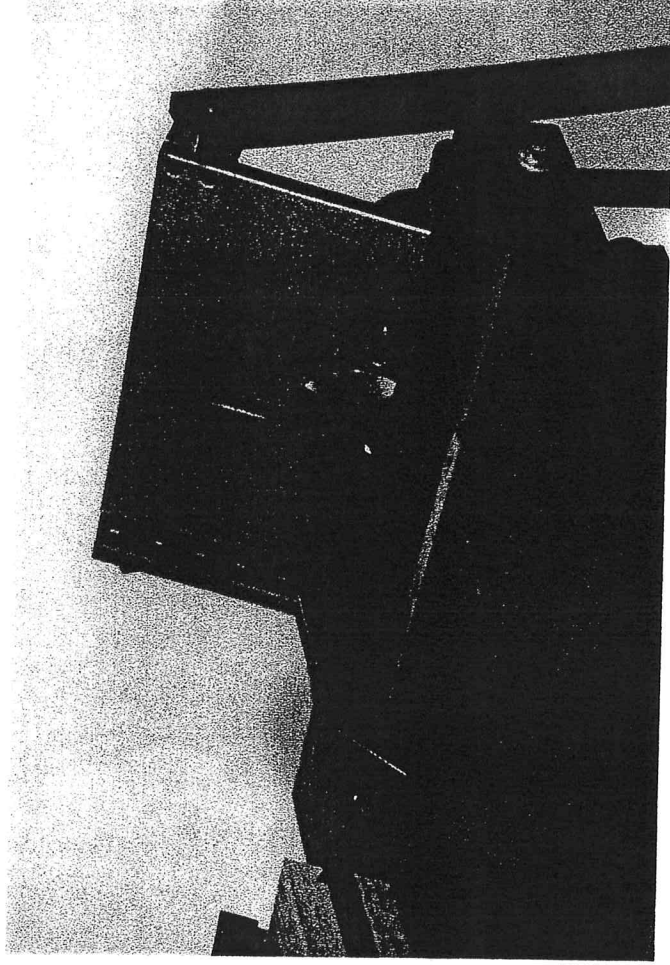

Fig. 34
4. Lower table 3 1/2 turns. Cut an end groove in workpiece A. (fig. 34)